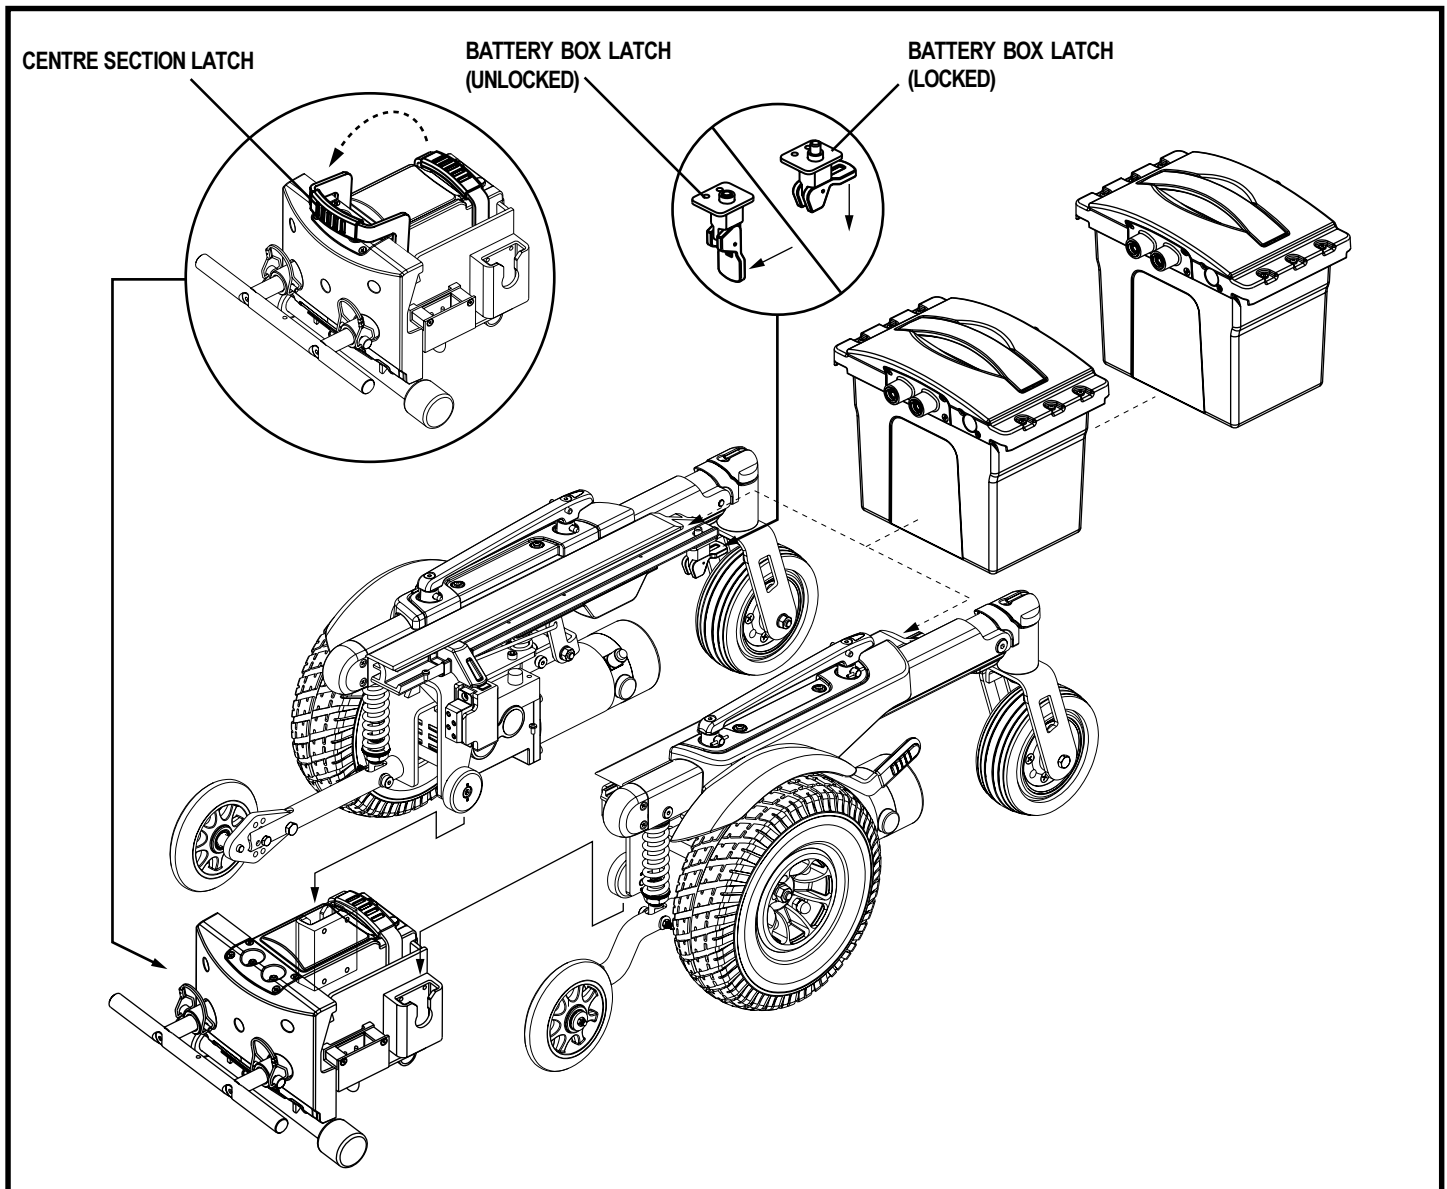

Figure 15. Quantum 1107 Battery Box Removal and Frame Separation
5. Flip down the battery box latches on each side of the power base. See figure 15.
7. Flip up the centre section latch. See figure 15.